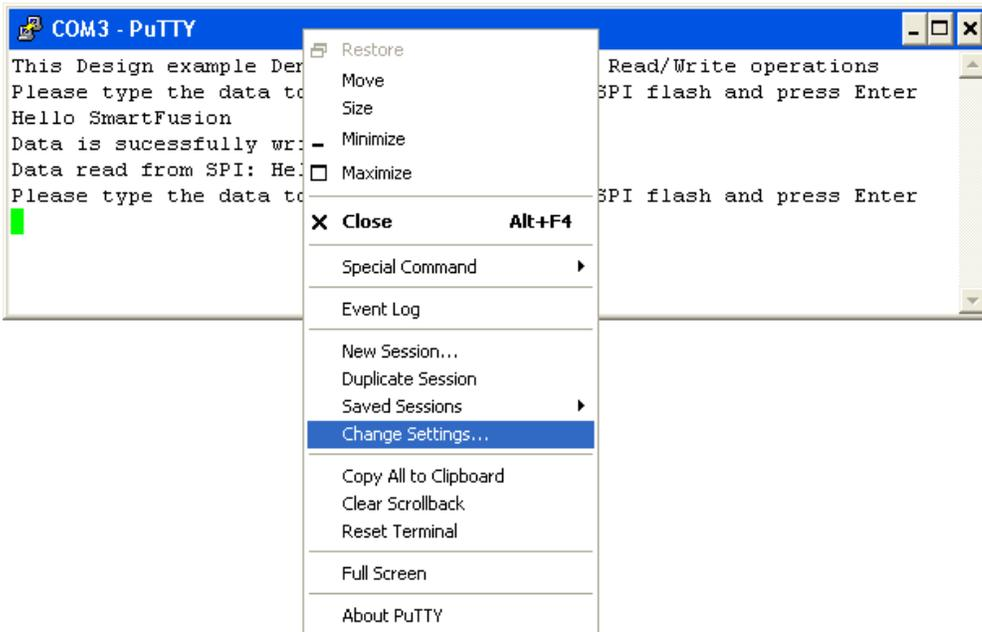

Figure 17: PuTTY Current Session Settings
5. Save the session for later use. Right-click the PuTTY title bar and click **Change Settings** (Figure 17).